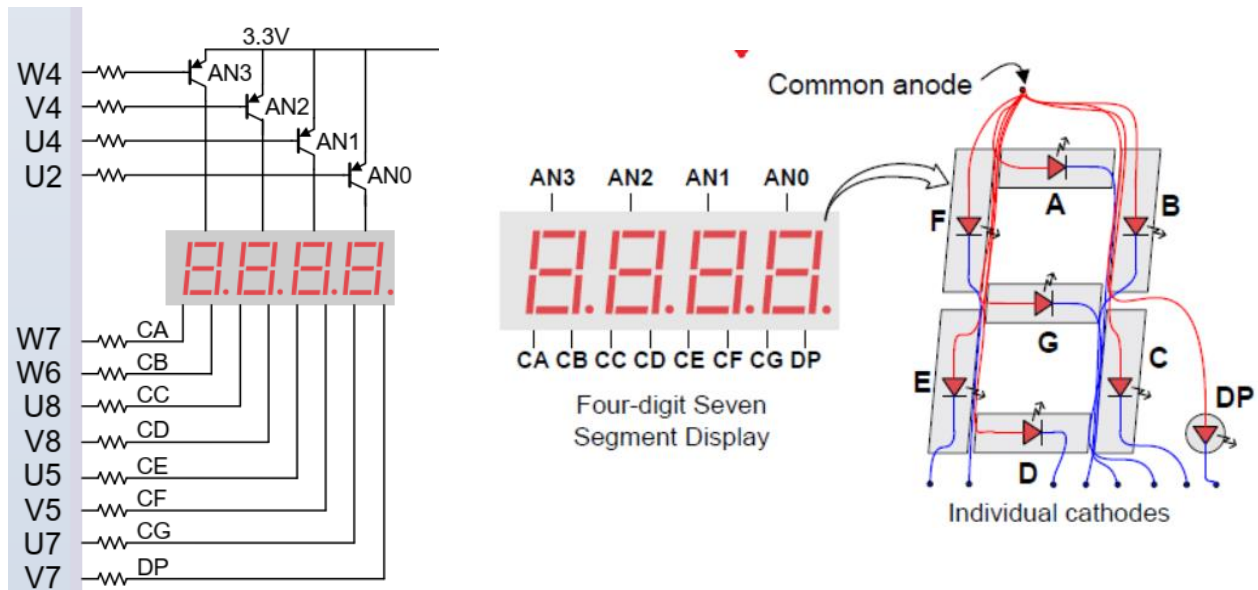

Fig. 2: Pin mapping and electrical setup of the 7-segment display of the Basys 3 board.
One component of the Basys 3 board is the 7-segment display (see Fig 1, No. 4). In general, each digit of a 7-segment component consists of 7 LEDs segments (CA-CG) that form the pattern to be displayed (and an additional LED for the decimal point (DP)). Each LED can be controlled via an output pin of the FPGA (see Fig. 2). As shown in Fig. 1, the Basys 3 board possesses 4 7-segment blocks, which will be called (decimal) digits in the following. To keep the overall number of pins that control the 4 digits reasonable, one output pin can control the same LED of all 4 digits. In order to select between the different digits a one-hot encoded multiplexing scheme is provided by the Basys 3 board (AN0-AN3). A graphical overview of the 7-segment display, its digits and LEDs as well as the corresponding FPGA pins is given in Fig. 2.
- You can investigate the constraint file (do not modify it!) and Fig. 2 get to know the assignment between the VHDL output ports and the FPGA pins.
- The decimal point (DP) can be neglected (e.g. set to '1')